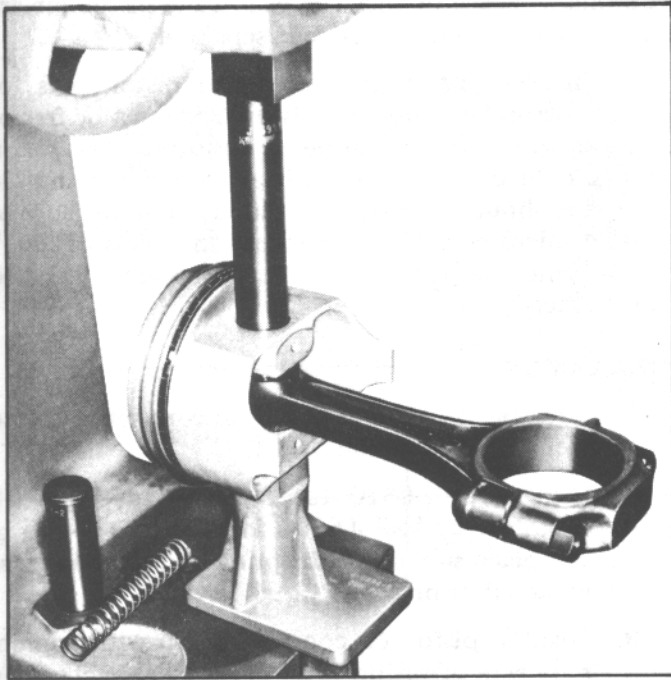

Fig. 73. Removing Piston Pin ("Mark IV V8")
3. Using tool J-9510 for In-Line and "small V-8" (Fig. 74), or tool J-6994 for 454 CID (Fig. 73), place connecting rod and piston assembly in arbor press with piston on support then using